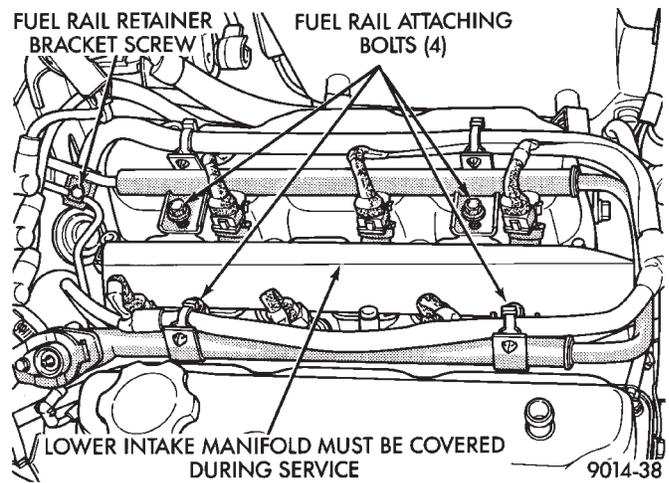

Fig. 10 Fuel Rail Attaching Bolts
- (15) Cover intake manifold with suitable cover when servicing (Fig. 10).
- (16) Remove vacuum harness connector from Fuel Pressure Regulator.
(17) Remove fuel tube retainer bracket screw and fuel rail attaching bolts (Fig. 10). Spread the retainer bracket to allow fuel tube removal clearance.
(8) Install the (4) fuel rail attaching bolts and torque to 22 N•m (200 in. lbs.) (Fig. 10).
(9) Install fuel tube retaining bracket screw and torque to 4 N•m (35 in. lbs.) (Fig. 10).